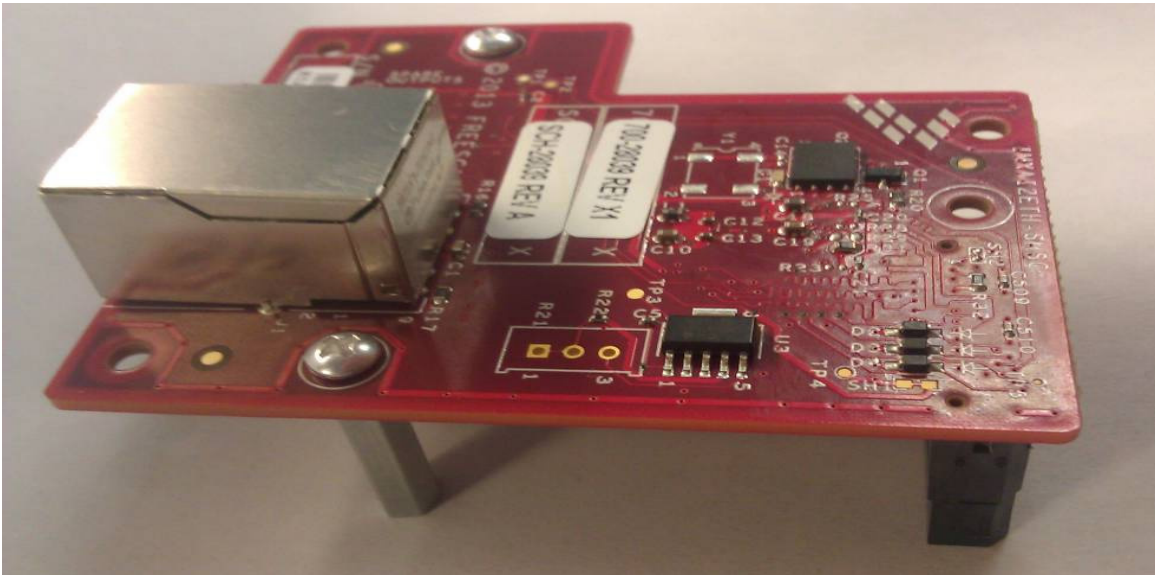

Figure 20. Ethernet daughtercard
- #0 is used in the RMII (Reduced MII) mode and routed to a board-to-board connector (J10) with type and pinout defined in the DOC-01898 document; a relevant daughtercard, e.g. IMXAI2ETH-SMSC (see Figure 20), can be plugged into it,